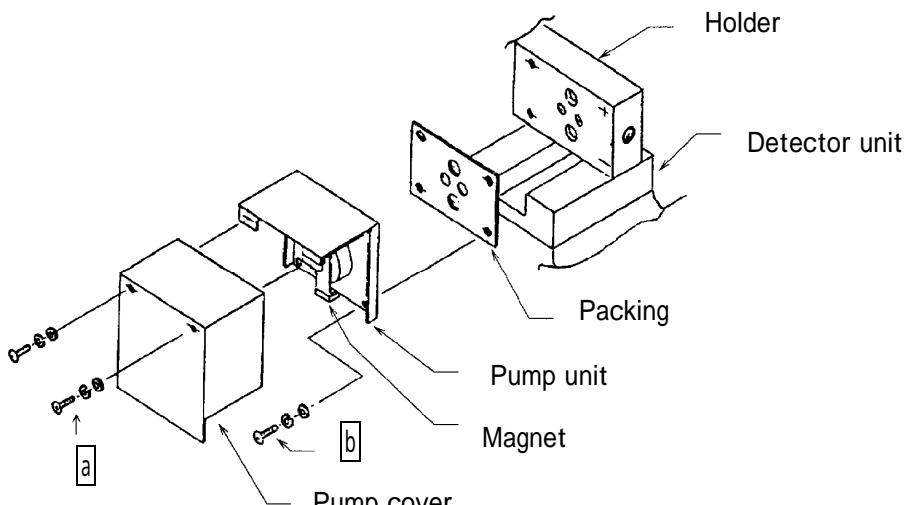

Fig. 12
4 - 4 Replacing the pump (See Fig 12)
- (2) Loosen 4 pcs. of small pan-head screws(M3x8, marked **a** in Fig. 12) for pump cover and remove the pump cover.
- (3) Loosen 4 pcs. of small pan-head screws (M4x8, marked **b** in Fig. 12) for pump unit and pull the pump unit to this side to remove it from the holder.
- (5) Tighten the pump unit with 4 pcs. of small pan-head screws(M4x8, marked **b** in Fig.12) and then, fix the pump cover with 2 pcs. of small pan-head screws(M3x8, marked **a** in Fig.12).
- (6) After completion of pump replacement, turn on power to the indicator/alarm unit. When the power to the pump is separated, turn on power to the pump.